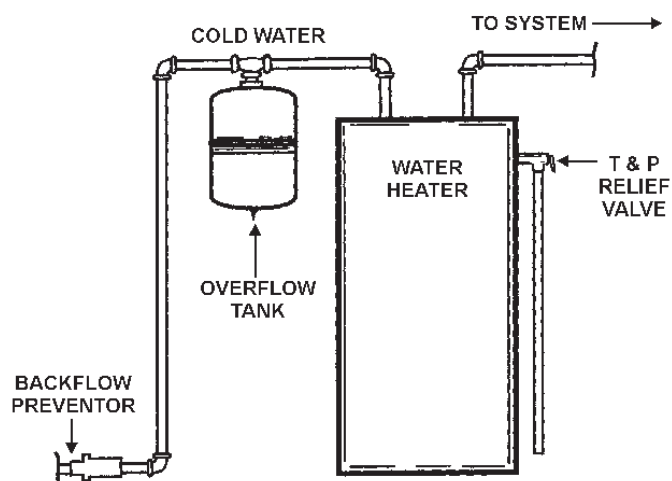

Figure 1. Typical Expansion Tank Configuration
2. The items which should be installed in sequence in the cold water line are (1) the EXPANSION TANK must be installed at least 18 inches away from the cold water inlet fitting on the water heater, (2) the PRESSURE GAUGE, and (3) the PRESSURE REDUCING VALVE, if required, see Figure 1.
Figure 1 above shows the correct valves and fittings that you will need to install your expansion tank. A threaded (3/4") water connection is supplied on the tank bottom.
2. Install expansion tank, pressure gauge and pressure reducing valve, if required, as shown above in Figure 1.